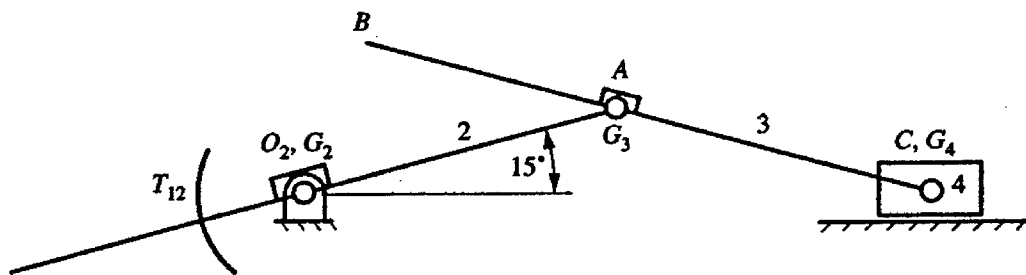

Figure 4
4. In the mechanism shown in Figure 4, link 2 rotates at an angular velocity of 20 rad/s clockwise and angular acceleration of 140 rad/s² clockwise. Using a graphical solution, find the torque which must be applied to link 2 to maintain equilibrium. Link 2 is balanced so that its centre of mass is at the pivot point O_2 . The centre of mass of link 3 is at A. The mechanism moves in the horizontal plane. Friction may be neglected.